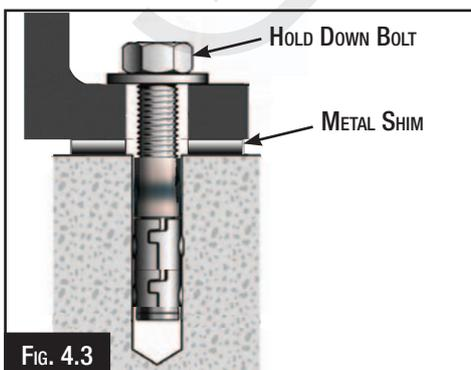

Fig. 4.3
After your machine has been anchored to a concrete slab floor, it then needs to be leveled. Loosen the hold down bolts and place a level on the surface of the working table. Metal shims need to be placed under the corner of the base of the machine until level. Once level then tighten the hold down bolts. (Fig. 4.3).
*The machine must not rest on supports other than those defined in Fig. 4.3*